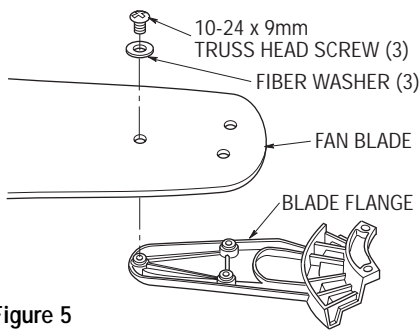

Figure 5
- 7. Mount the fan blades to the blade flanges using four 10-24 x 9mm truss head screws and four fiber washers (supplied) (Figure 5).